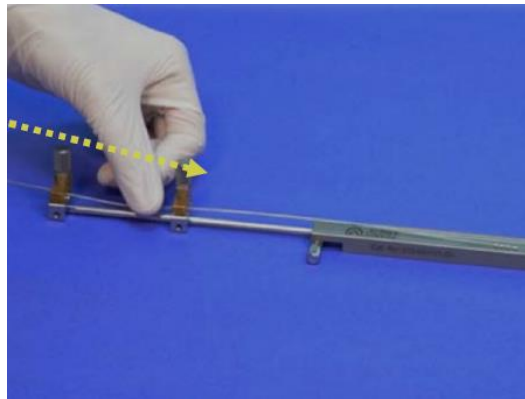

Figure 111: Threading the DBS into the DBS Holder
6. Thread the DBS electrode into the clamps of the DBS holder, through the depressed area to prevent the DBS from being pinched by the clamps (Figure 111).